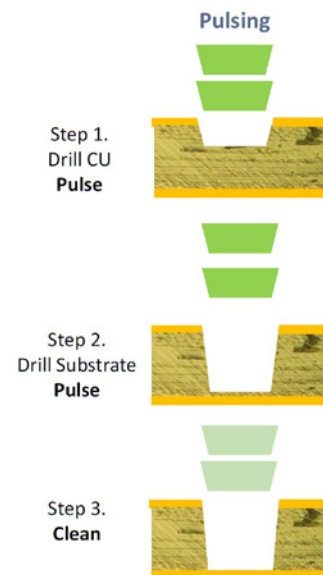

Figure 3: Pulsing process.
- **Pulsing:** Also known as “percussion drilling,” where the beam diameter matches the desired hole diameter, allowing the via to be created in one or more pulses without moving the beam (Figure 3)